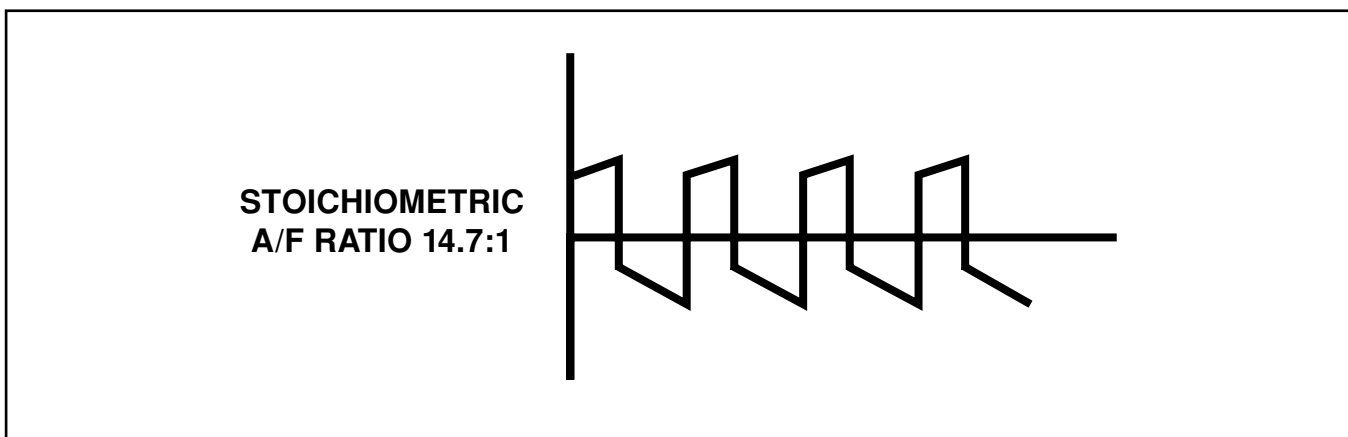

Figure 37 Short-Term Fuel Compensation
As mentioned earlier, when the fuel system goes into closed-loop operation, two adaptive memory systems begin to operate. The first system that becomes functional is called short-term memory or short-term correction (fig. 37). This system corrects fuel delivery in direct proportion to the readings from the upstream O2 Sensor. In other words, as the Air/Fuel (AF) mixture changes, the O2 Sensor voltage tells the PCM that the AF ratio contains either more or less oxygen. The PCM then begins either to add or remove fuel until the O2 Sensor reaches its switch point. When the switch point is reached, short-term correction begins with a quick change (kicks). Then it ramps slowly, until the O2 Sensor output voltage indicates the switch point in the opposite direction. Short-term adaptive memory will keep increasing or decreasing injector pulse width, based upon the O2 Sensor input. The maximum range of authority for short-term memory is  $\pm 33\%$  of base pulse width.